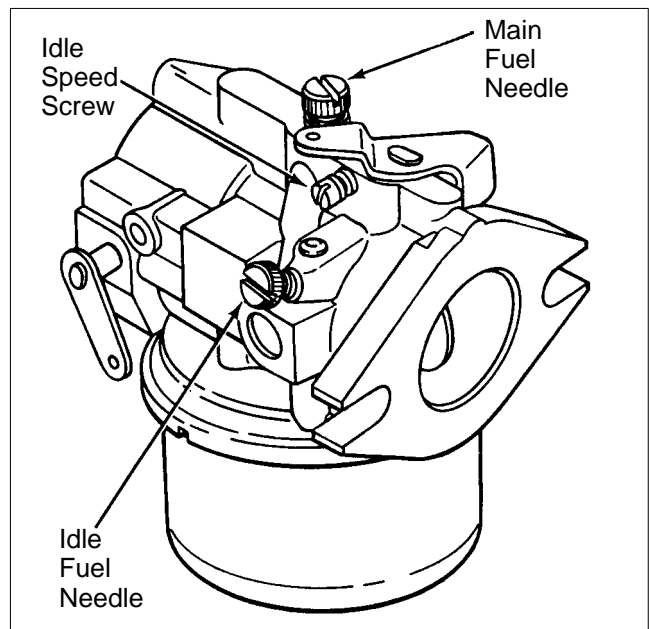

Figure 1. Idle Speed Screw (typical).
2. Start the generator set. With the set running and no load applied, push the governor arm to place the throttle as far as possible in the idle direction, then turn the carburetor idle speed screw until a voltmeter connected to the 120 Volt outlet reads from 77 to 87 Volts. See Figure 1. This positions the governor at the no-load speed of about 1600 rpm, which can be verified with a tachometer. Stop the engine.